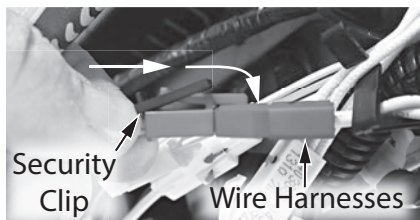

Figure 34 - Secure wiring with security clip
- 20** Connect new, long heater block assembly wires previously disconnected in **Step 12** to reverse side of control board. Secure wire harnesses with security clip. See Figure 34.